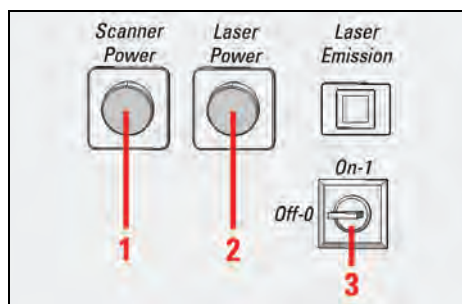

Figure 75: Overview of the Control Panel Field on the Compact Supply Unit
7. Switch on the scan head on the front side of the compact supply unit (see **Figure 75, item 1**).
8. Switch on the lasers on the front side of the compact supply unit (see **Figure 75, item 2**).
9. If your system has an infrared laser (MP) or an optical parametric oscillator (OPO), switch on these components as described in the manufacturer's respective user manual.
10. To switch on the laser in the supply unit, press the key switch on the front side of the compact supply unit (see **Figure 75, item 3**).